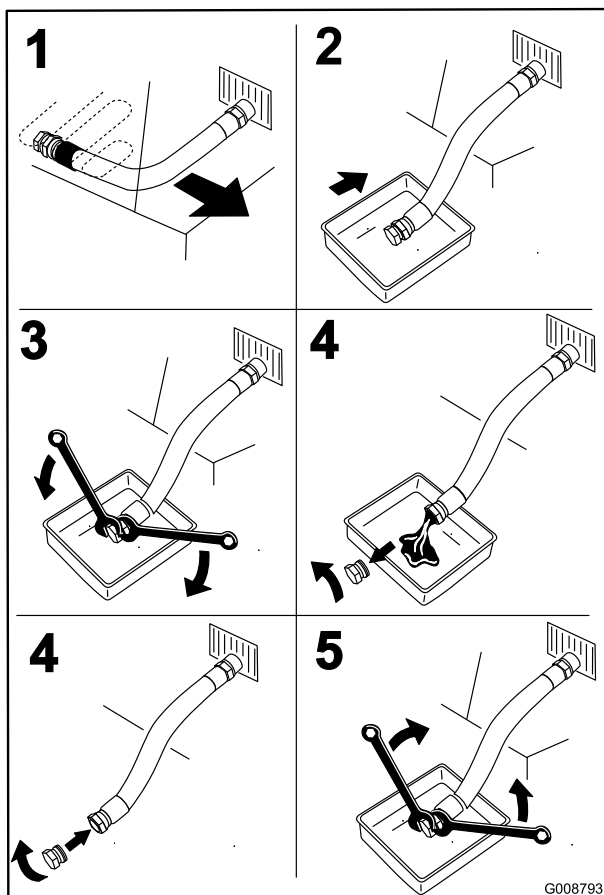

Figure 53
4. Stop the engine, remove the key, and wait for all moving parts to stop before leaving the operating position (Figure 53).